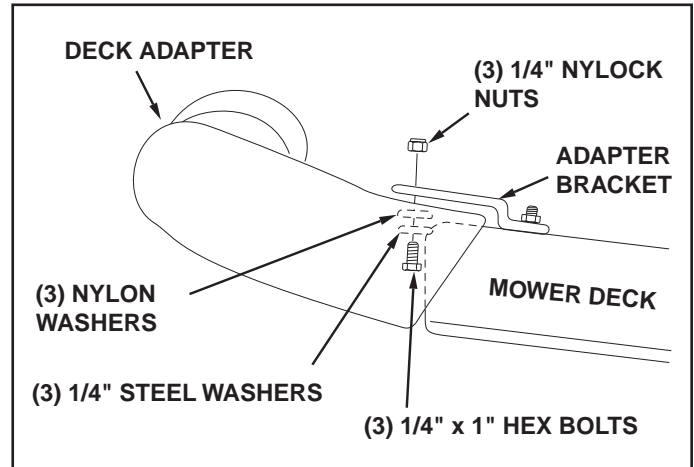

FIGURE 30
- With deck adapter positioned correctly over the discharge opening, use the adapter bracket as a template and drill three 9/32" diameter holes in the top of the deck adapter. See figure 30.
- Bolt deck adapter to bracket using three 1/4" x 1" bolts, nylon washers, 1/4" flat washers and 1/4" nylock nuts. Nylon washers should be against the inside of the deck adapter. See figure 30.